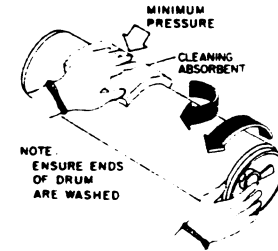

Figure 1. Washing the Drum
1. WASH ENTIRE DRUM (FIGURE 1).